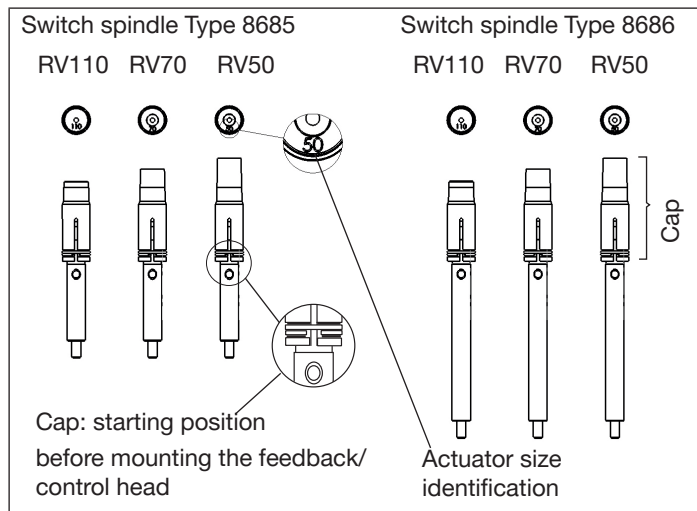

Fig. 7: Switch spindle identification
- ▶ Use only switch spindles that match the actuator size. The corresponding actuator size identification (RV50, RV70, RV110) for switch spindles are embossed on the front of the PVC cap (see “Fig. 7”).
→ Select the switch spindle that matches the actuator size (see “Fig. 7: Switch spindle identification”).
- The caps must be in the starting position. If not, move the caps to the starting position (see “Fig. 7”).